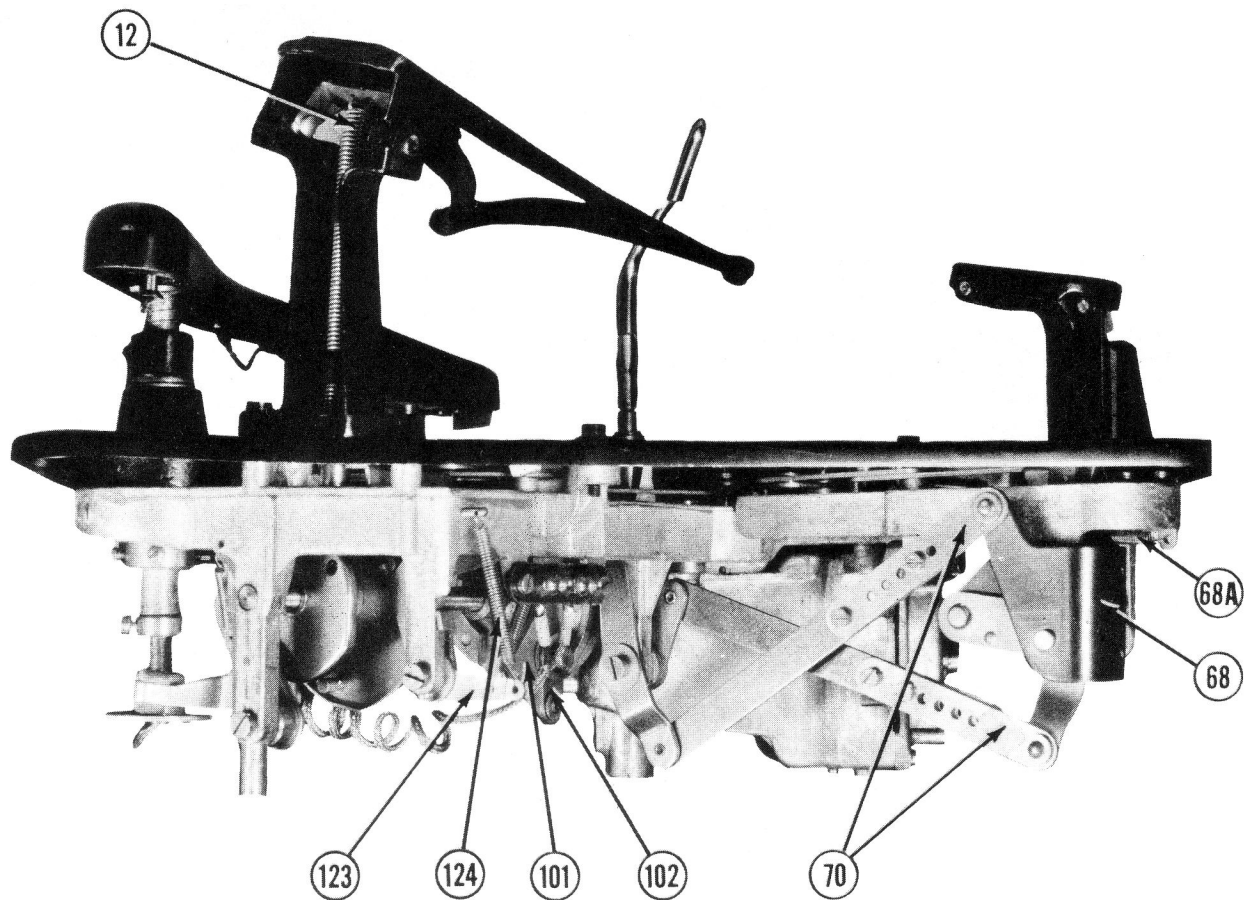

FIG. 3—BACK VIEW
If, for any reason, the platform and its coupling links (70) have been removed, they may be replaced and properly adjusted, as seen in Figures 3 and 5.